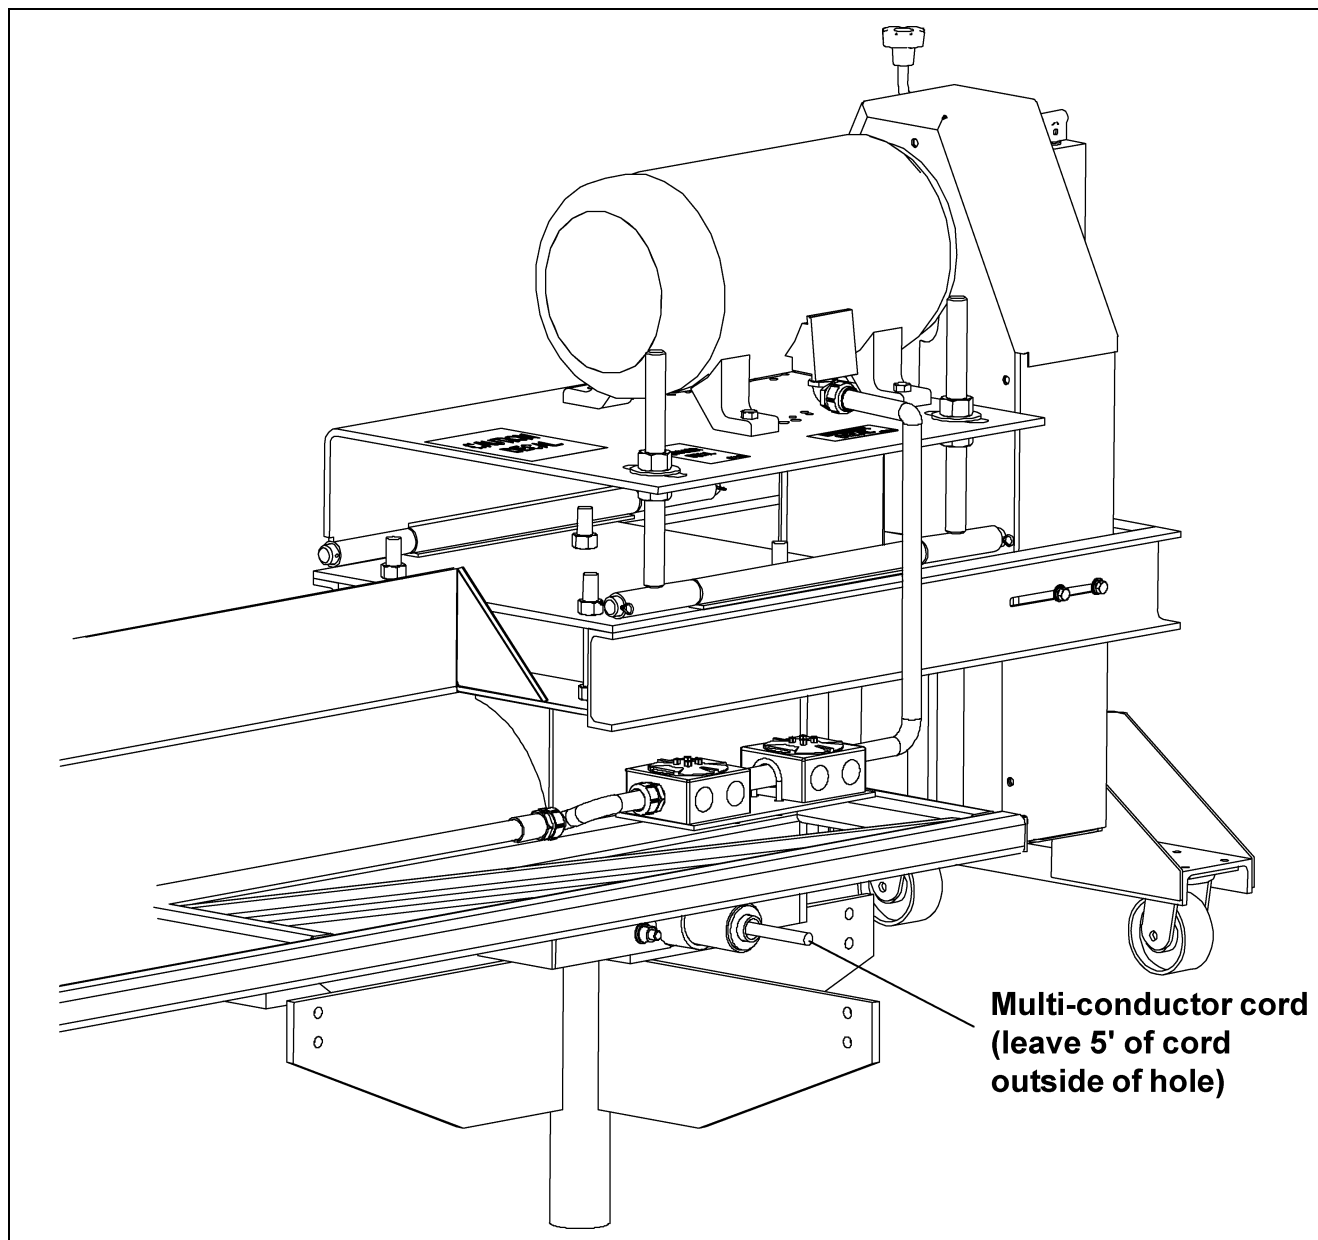

Figure 5AI
3. Feed the power cord through the pivot tube. (See Figure 5AJ.)